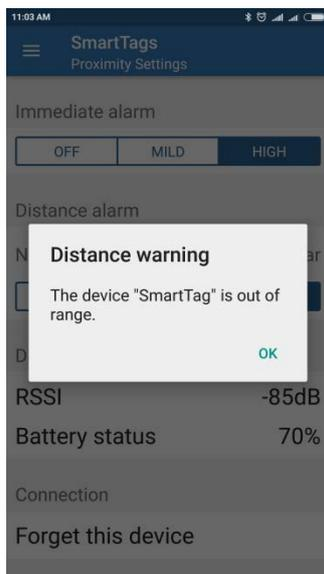

Figure 35: Distance Alert Window
- The **Near/Far** slider controls the RSSI threshold for triggering a distance alert. When the measured RSSI level of a connected device moves below the configured threshold or a device is disconnected, the SmartTags app will trigger an alert on both Smart Tag and iOS or Android devices. In case of an alert, the screen displays a message as shown in Figure 35. Click **OK** to terminate the alert on either device.